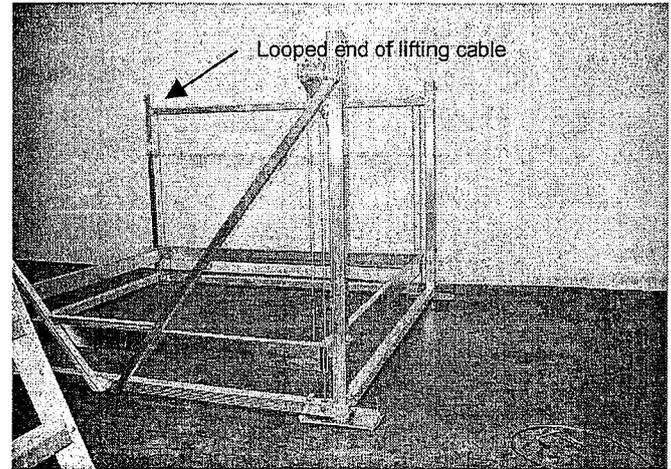

FIG. 20
1. Locate the single cable in the carriage cross beam at the winch end of the lift (See FIG. 20). This cable is also known as the lifting cable. The looped end of this cable must get secured to the far side frame.